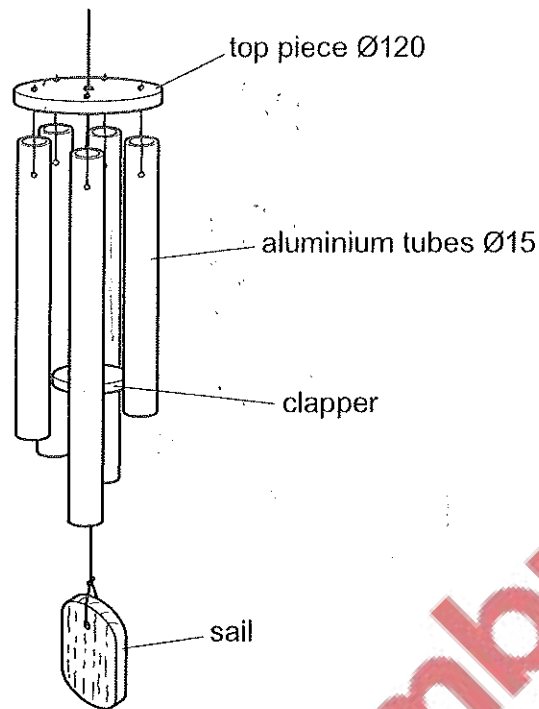

Fig. 13.1
- 13 Fig. 13.1 shows wind chimes that will be batch produced in a school workshop. All the production methods require speed and accuracy.